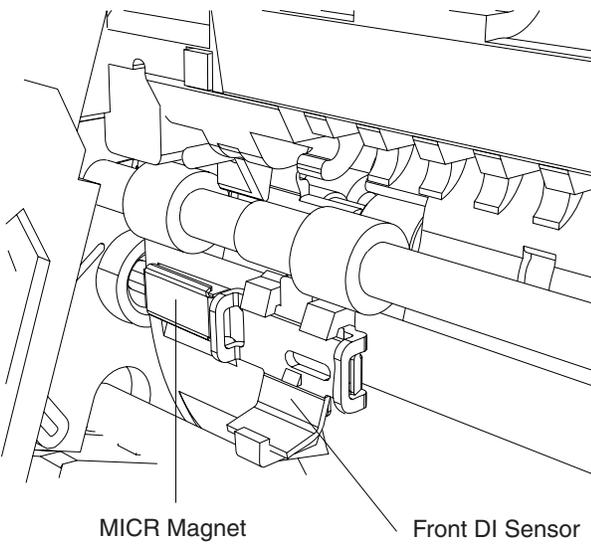

Figure 6-68. Lower DI Sensor with MICR Magnet
- 9 On printers that have the MICR feature installed, the MICR magnet assembly is held in place by the paper sensor. Make sure you remove the magnet at the same time. See Figure 6-68 on page 6-98.